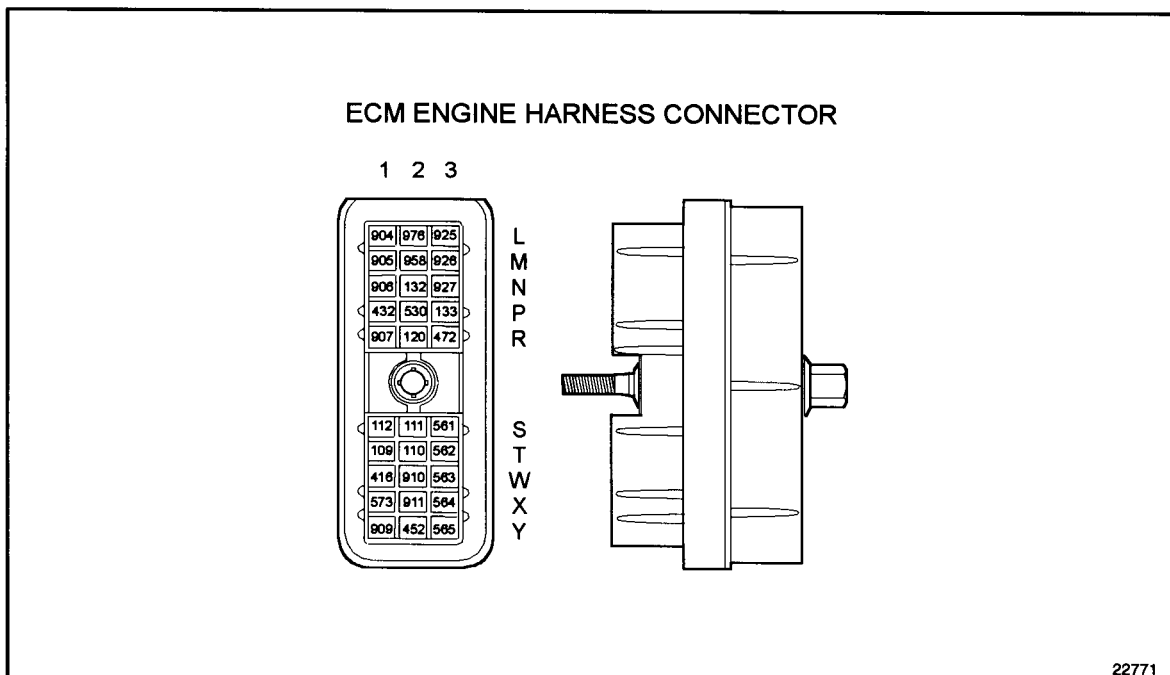

Figure 14-7 ECM Engine Harness Connector
3. Measure resistance between sockets MR2 (#120M) and Y2 (#452) on the Master engine harness connector. See Figure 14-7.
3. Measure resistance between sockets R2 (#120R) Receiver and Y2 (#452M) on the Master engine harness connector. See Figure 14-7.